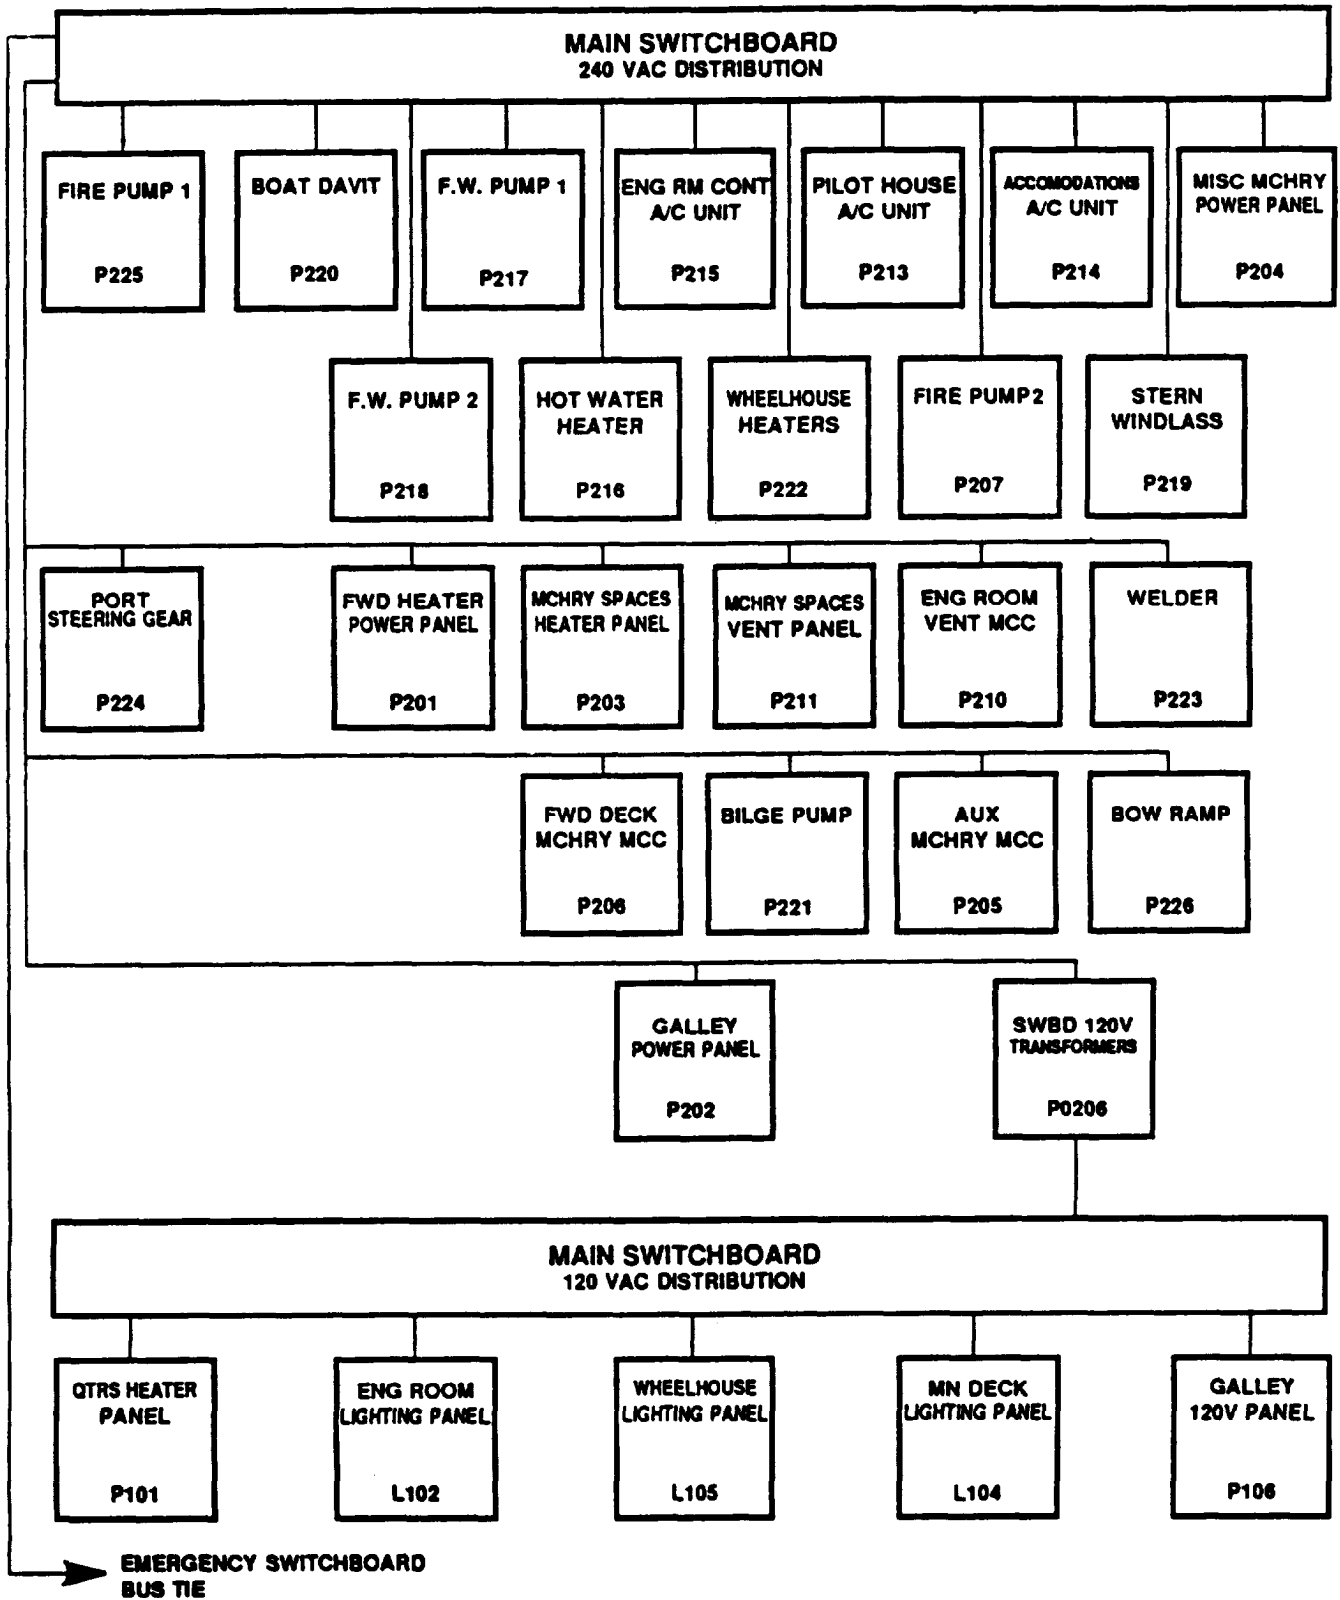

FIGURE 1-2. Main Switchboard.
c. Main Switchboard. The main switchboard (FIGURE 1-2), located in the engine room operating station, provides generator selection, shore power selection, and power distribution for ship's service 240 Vac and 120 Vac power. Distribution of 120 Vac is accomplished by ship's service 120 Vac transformers located in the engine room operating station. The emergency switchboard bus tie provides 240 Vac to the emergency switchboard. Power selection is provided by closing circuit breakers on the switchboard. Power monitoring is provided by ammeters, voltmeters, frequency meters, and synchronization meters. Controls are provided for manual and automatic generator voltage regulation and generator engine speed regulation. The switchboard bus tie also serves as an emergency 240 Vac power feedback source for the main switchboard from the emergency switchboard, to power selected equipment systems during emergency power conditions. An interlock system is incorporated into the switchboard to prevent shore power from being applied to the switchboard while generator power is applied. The interlock system also prevents the emergency switchboard emergency generator circuit breaker from being closed.